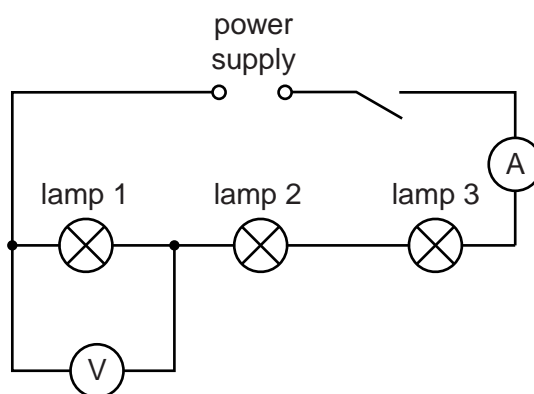

Fig. 3.1
- (ii) Three similar lamps in suitable holders. Any low voltage lamps will suffice, provided that they glow when connected as shown in Fig. 3.1.
- (vi) Sufficient connecting leads to construct the circuit shown in Fig. 3.1, with two spare leads.
1. The components are to be connected by the Supervisor as shown in Fig. 3.1.
Reconnect the circuit as shown in Fig. 3.1.